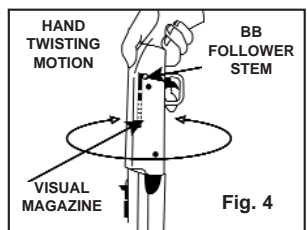

Fig. 4
- Pull the BB follower stem back and latch in the notch. (Fig. 4)
- With a hand twisting motion, shake and twist the air gun (See Fig. 4) to fill the visual magazine.